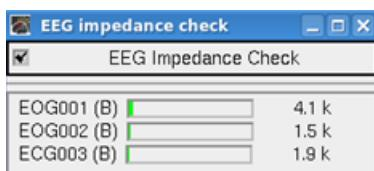

Figure 8: EEG impedance check.
- Check EEG impedances by selecting the check box in the EEG impedance check dialog, see Figure 8. The dialog should appear automatically when EEG is selected in the acquisition settings.